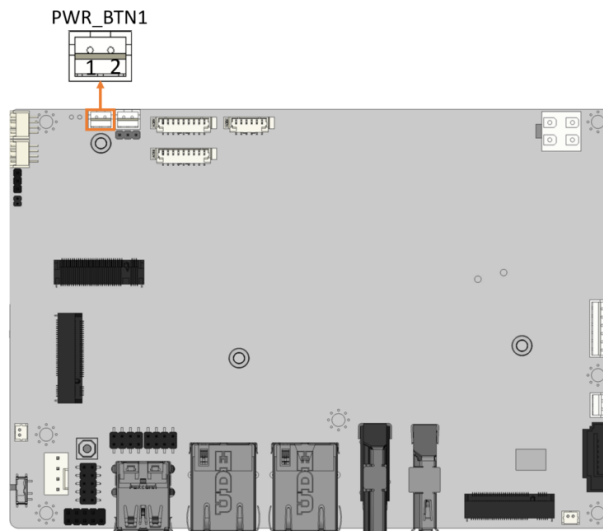

Figure 3-10: Power Button Connector Location
- CN Location:** See **Figure 3-10**